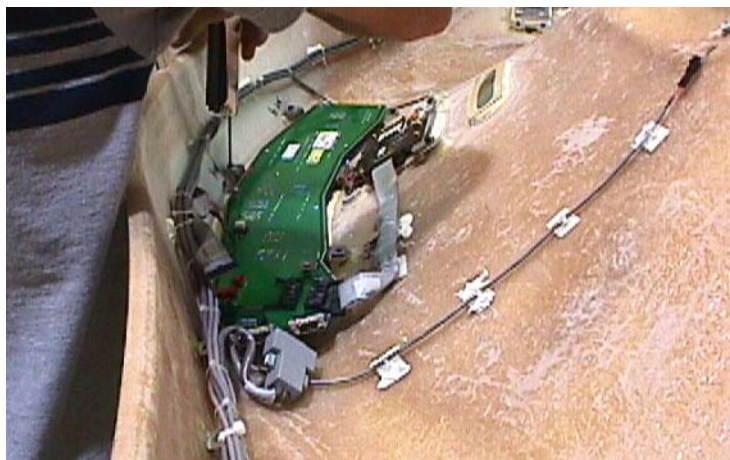
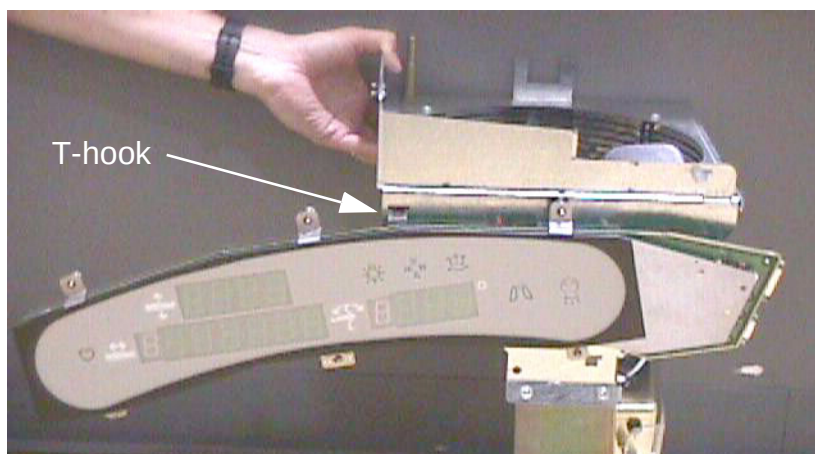

Figure A-15 Gantry Display Removal
Figure A-16 Gantry Display Service Mounting Location "A"
- 8.) Remove the gantry display and one (1) of the cover's control assemblies, and place them into the service positions.
- * The gantry display is held in place with (5) thumb screws. Use a flat-blade screwdriver to remove the Display. Reference Figure A-15.
- * There are (2) mounting methods. Both use the cables connected to the REAR GANTRY COVER.
- * Disconnect the cabling at the right rear gantry cover. Only (1) cable will connect to the Gantry Display.
- * Position "A" use one of the display T-hook to hang in the "T" slot on the side of the right Gantry Fan Assembly. Reference Figure A-16.